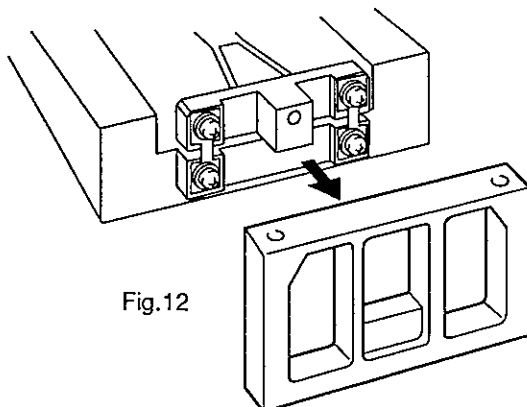

Fig.12
Step 11 Remove the mechanical unit from the main fixture. Then remove the suspension guide from the mechanical unit. (Fig. 12)